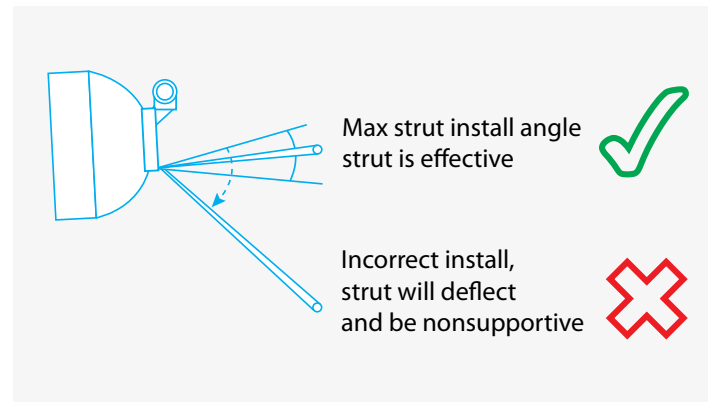

Figure 6.6: To provide adequate support, a strut must be angled within manufacturer guidelines.
- The angle at which the strut is installed should be within guidelines specified by the manufacturer. Failure to do so can result in flexing or bending of the strut. Ideally, the strut will be most effective if mounted perpendicular to the antenna (Figure 6.6).